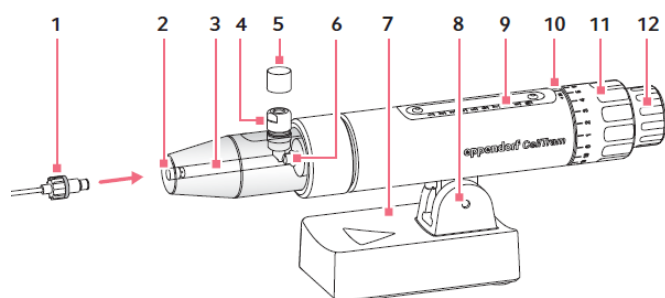
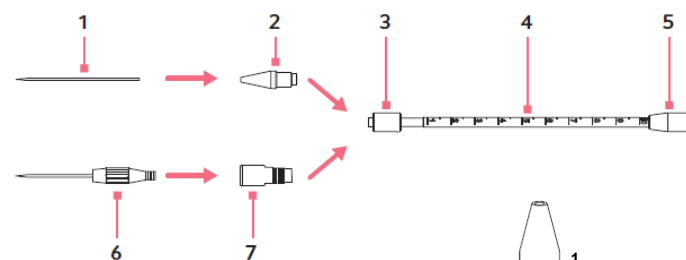
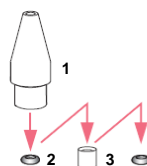

Fig. 1: CellTram 4 Oil
Fig. 2a: Capillary holder 4
Fig. 2b: Grip head 4 system
1. Remove your new CellTram 4 Oil from the package. Turn the coarse control knob (see Fig.1: 11) counter-clockwise to move the piston backwards to piston position 10 (see Fig.1: 9). In this position the metal piston within clear acrylic oil chamber stops at the rear of the chamber (see Fig. 1: 3,6). You will feel resistance). Do not over-turn.
2. Screw one end of the injection tube into the front of the CellTram 4 Oil (see Fig.1: 2) and attach the other end to the rear of the Capillary holder 4 (see Fig.2a: 5). Prepare the grip head 4 with two o-rings and the distance sleeve as shown in Fig. 2b. Mount the grip head 4 system onto the front end of Capillary holder 4 (see Fig.2a: 3) **but make sure not to screw it too tightly, let it loosen about one third of a turn.**
4. Remove the dust cap from the filling valve (see Fig.1: 4, 5). Screw the threaded end of the filling tube into the filling valve (see Fig.3a) on the CellTram 4 Oil. Fill the oil chamber about half way with oil. Leave the syringe attached to the filling valve and hold the CellTram 4 Oil vertically with the oil chamber pointing toward the ceiling. You can rest the base of the CellTram 4 Oil on the edge of a counter, but make sure you can still turn the knobs.
Once the CellTram 4 Oil is filled with oil and sealed, turning the coarse rotary knob too quickly counter-clockwise will result in too strong of a vacuum and may degas the oil - gas may be pulled out of solution forming bubbles in the oil chamber or in the injection/pressure tube. Too high pressure can fire a microcapillary out of the capillary holder into the room and risks injury. When the system is sealed, be careful to always turn the coarse knob slowly, no faster than about one full rotation every 3 sec. The fine control knob (see Fig.1: 12) is normally used for injections and turning this quickly will not cause any problems.
3. Fix with your index finger the slightly loosened grip head against the capillary holder to avoid any air bubbles that may appear between the grip head and capillary holder and then turn the fine or coarse control knob (see Fig.1: 11,12) on the CellTram 4 Oil to purge any unseen air bubbles within the capillary holder or grip head. Removing a capillary out of the grip head usually leaves also two or three bubbles hidden in the O-rings and distance sleeve of the grip head (see Fig. 2b).